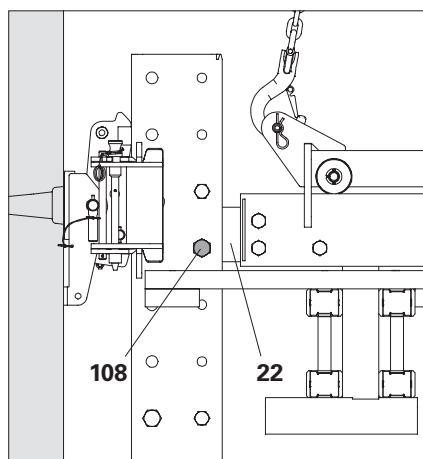

Fig. C3.03a
3. Fix the crossbeam (**21**) with Crossbeam Head RCS/VARIO (**22**) to the climbing rail by fitting a screw M24 x 130-8.8 (**108**) in the 4th hole  $\varnothing 26$ . (Fig. C3.03a)